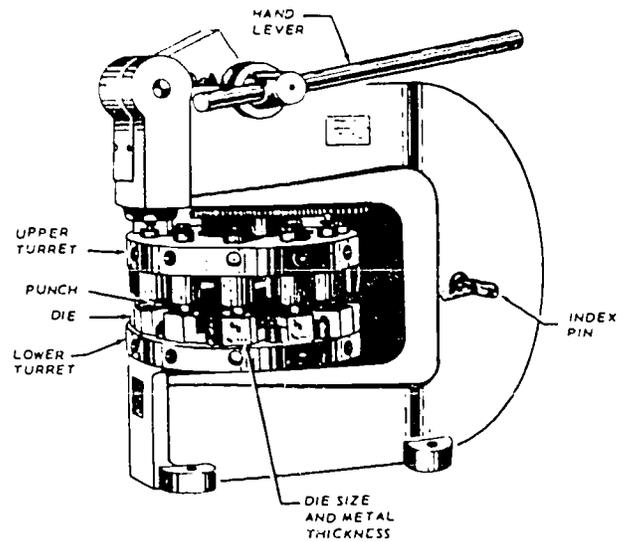

Figure 2-10. Rotary punch.
Rotary Punch. This large punch is used in the sheet metal shop to punch holes in metal parts such as baffle plates and tops for drain tables. It can also be used for cutting radii in corners and for making washers. The rotary punch shown in figure 2-10, is found in many Air Force sheet metal shops. It is composed of two cylindrical turrets, one mounted over the other and supported by the frame. Both turrets are synchronized so that they rotate together, and the index pins maintain correct alignment at all times. To release the index pins from their locking position, the lever, which is located on the right side of the machine, is rotated 180°. This action will withdraw the index pins from the tapered holes and allow you to turn the turrets to any size punch desired.
Preventive maintenance for the rotary punch consists mainly of keeping it cleaned, adequately lubricated, and properly adjusted. At intervals specified on the maintenance record folder, the rotary punch, such as illustrated in figure 2-10, is inspected to see that the index pin works freely and locks the upper and lower turrets easily. If necessary, clean and oil the index pin and aligning holes in the turrets. Next, inspect each punch and die to see if it lowers and raises freely when the hand lever is pulled forward. Cleaning and oiling are necessary for any punch that sticks. To thoroughly clean this piece of equipment, you must remove any sticking punch. Then clean the punch and its sleeve, and lightly coat them with oil before reassembly. Next, inspect the hand lever and connecting linkage for cleanliness and freedom of operation; if necessary, clean and oil the moving parts. Now, inspect each punch for proper alignment with its corresponding die by punching several thicknesses of stiff paper. Finally, wipe off all excess oil, clean all painted surfaces with a dry rag or a rag moistened with soap and water, and wipe all unpainted surfaces with a slightly oiled rag. The final step is to make the appropriate entries in the maintenance record folder.
4. Can the top turret of the rotary punch, shown in figure 2-10, be set to punch through a die that is too large? Why?